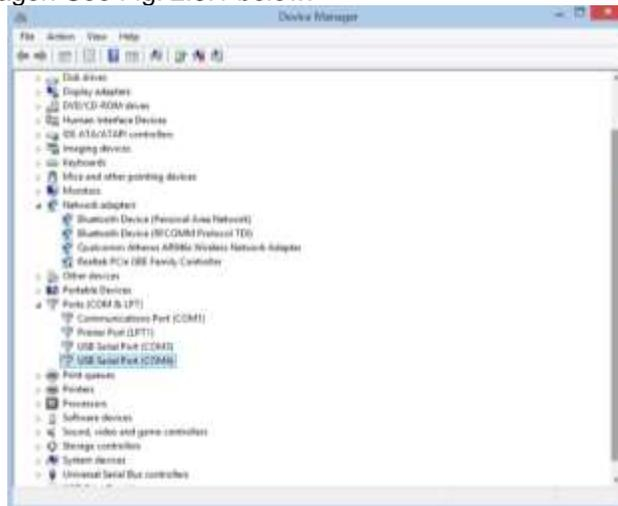

Fig. 2.3.1 Select a COM Port to uninstall/delete
- Step 1.** Open Device Manager. Refer to Section 2.1 Determining the correct COM Port for help with locating the device manager. See Fig. 2.3.1 below.